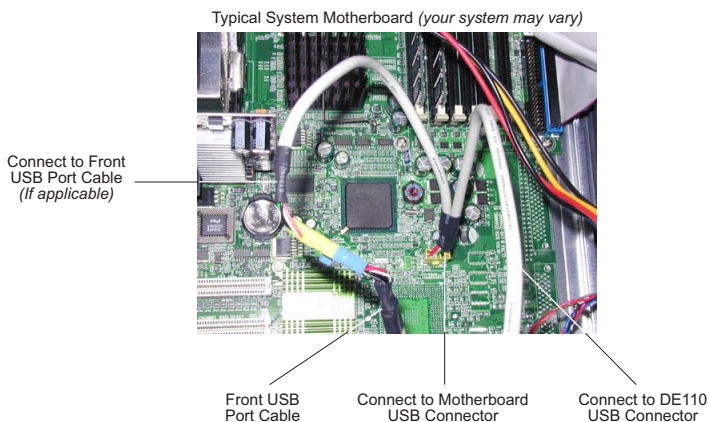

Figure 8: Connecting the Split USB Cable to the System
4. Locate a spare 9-Pin USB connector on the system motherboard and connect the female connector on the split USB cable (provided) to it (Figures 8 & 11).
Connect the female connector on the split USB cable (provided) to the newly vacated USB connector located on the system motherboard (Figures 8 & 11).
If applicable, connect the male connector on the split USB cable to the front USB port cable (Figures 8 & 11). Make sure the red wires on both cables are correctly aligned.